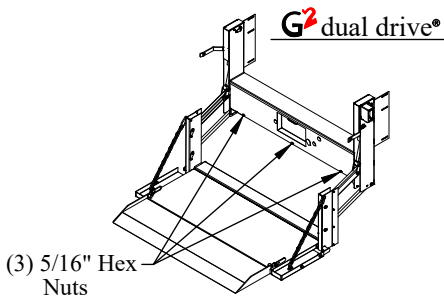

Figure 13: Box cover locations.
1. **Remove** the box cover by removing the 5/16" hex head nuts or bolts (Figure 13).